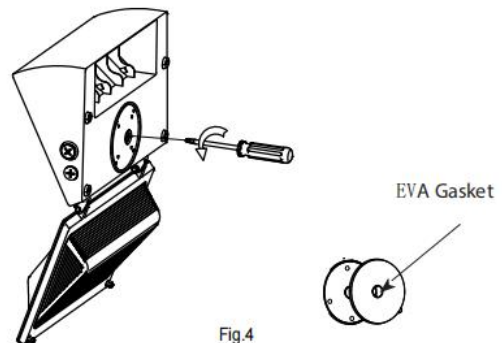

Fig.4
4. Remove the pre-cast locators at the back of rear housing. Stick EVA gasket on it. (Fig.4)